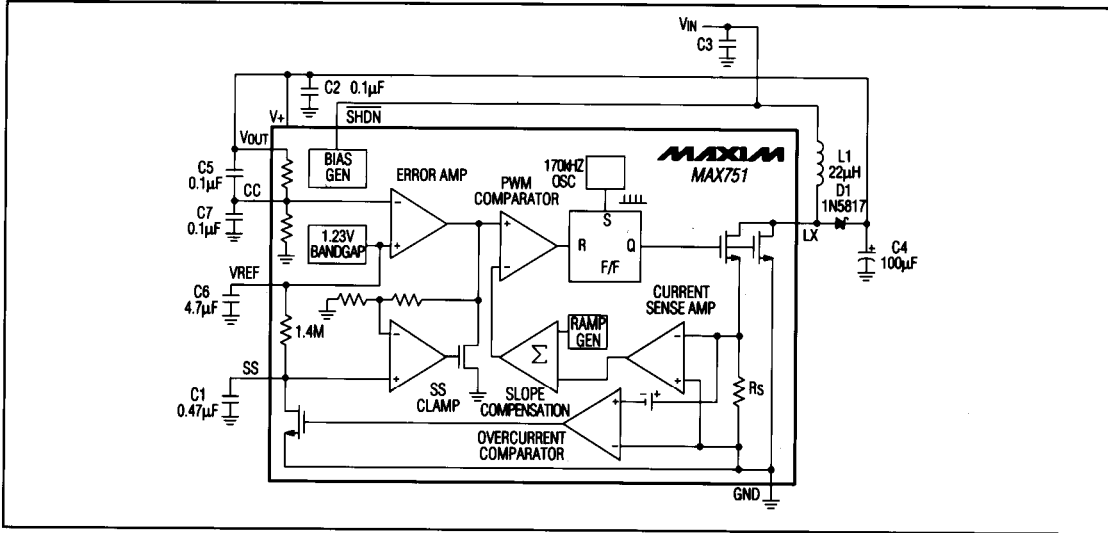

Figure 1. Detailed Block Diagram with External Components, Bootstrapped Mode
(Circuit of Figure 1, VIN = +3V, ILOAD = 0mA, TA = TMIN to TMAX, typical values are at TA = +25°C, unless otherwise noted.)
(Circuit of Figure 1 in bootstrapped mode, $L_1 = 22\mu\text{H}$, $T_A = +25^\circ\text{C}$, unless otherwise noted.)
(Circuit of Figure 1 in bootstrapped mode, L1 = 22μH, T_A = +25°C, unless otherwise noted.)
(Circuit of Figure 1 in bootstrapped mode, L1 = 22 μ H, T_A = +25°C, unless otherwise noted.)
The controller consists of two feedback loops: an inner (current) loop that monitors the switch current through the current-sense resistor (R_S) and amplifier, and an outer (voltage) loop that monitors the output voltage with an error amplifier (Figure 1). The inner loop performs cycle-by-cycle current limiting, truncating the power transistor on time when the switch current reaches a threshold determined by the outer loop. For example, a sagging output voltage produces an error signal that raises the threshold at the error amp output. This allows the inductor current (which generates the current-sense amp output voltage) to increase, resulting in more energy stored and transferred during each cycle.
The Soft-Start (SS) pin limits power-up current, allowing proper start-up with a load on the output. On power-up, the MAX751 uses the maximum switch duty cycle to draw excessive current to charge the output filter capacitor, and supply current to the load. In this case, the device may stall and the output voltage will not rise to 5V. A capacitor (between 0.047µF and 5µF) is required on SS to ensure proper start-up. The larger the capacitor, the slower the internal current-limit threshold is raised, allowing more time for start-up. As the voltage on the SS pin increases, the voltage at the SS clamp output increases, which in turn increases the current-limit threshold (Figure 1).
Use a Schottky diode with a continuous-current rating of at least 500mA for full-load (≥ 200 mA) operation. The 1N5817 is a good choice. The two compensation capacitor values at the CC input are critical because they have been selected to provide the best transient response. The input capacitor (C3 in Figures 1, 2, and 4) may be omitted if the power supply impedance is very low. Otherwise, up to 100 μ F may be necessary.
The power-up SS charge rate is determined by the time constant formed by the SS capacitor and the internal $1.4M\Omega \pm 25\%$ resistor between VREF and SS (Figure 1).